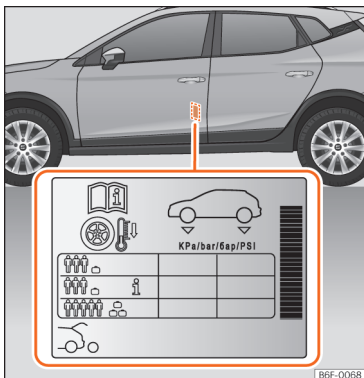

Fig. 201 Location of the tyre pressure sticker.
- Adjust tyre pressure to the load being carried by the vehicle »» Fig. 201.
The tyre inflation pressures are listed on a sticker on the rear of the front left door frame »» Fig. 201.
Depending on the vehicle, tyre pressure can be adjusted to medium load to improve driving comfort (tyre pressure **i**) »» Fig. 201. When driving with comfort tyre pressure fuel consumption may increase slightly.
The tyre pressure must be adjusted according to the load the vehicle is carrying. If the vehicle is going to carry the maximum load, the tyre pressure should be increased to the maximum value indicated on the sticker »» Fig. 201.
pressure of 4.2 bar as indicated on the tyre pressure label »» Fig. 201.
- The driver is responsible for ensuring that all of the vehicle tyres are correctly inflated to the right pressure. The recommended tyre pressure is indicated on the label »» Fig. 201.
- When the tyres are cold, tyre pressure should be that indicated on the label »» Fig. 201.